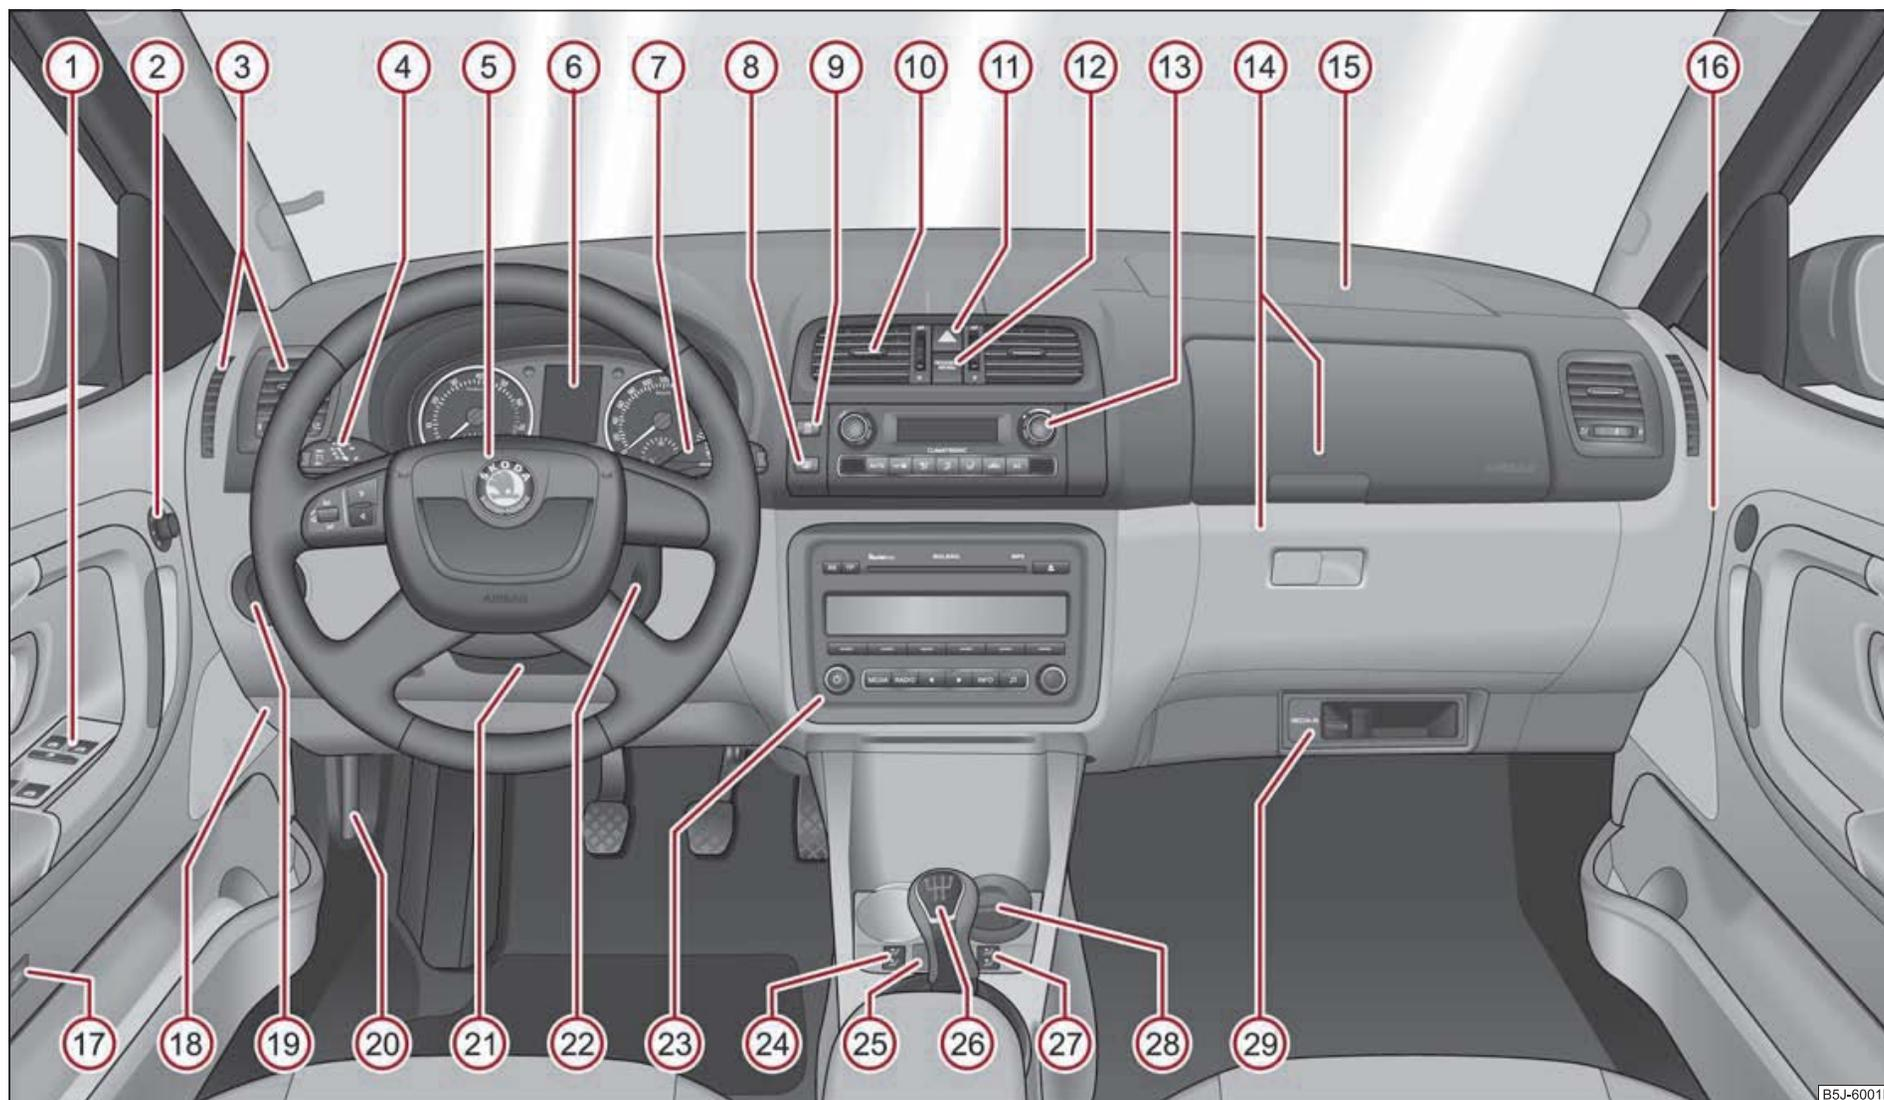

Fig.1 Cockpit
- The arrangement of the controls and switches and the location of some items on right-hand drive models may differ from that shown in ⇒ page 8, fig. 1. The symbols on the controls and switches are the same as for left-hand drive models. ■